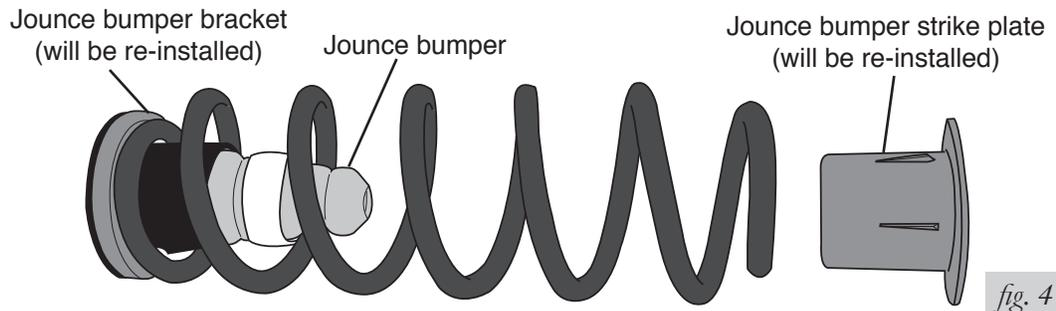

*fig. 2*
2. Unbolt the brake line bracket and disconnect the brake line from the clip on the side of the frame (fig. 2). Disconnect the lower shocks from the suspension crossmember.